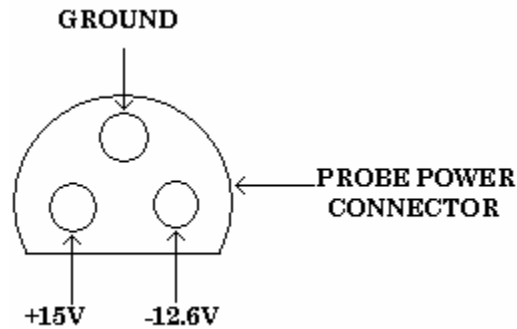

Figure 5. Probe power connector.
(9) Connect multimeter to TI probe power connector (fig. 5) and verify voltages are within limits specified in table 24.